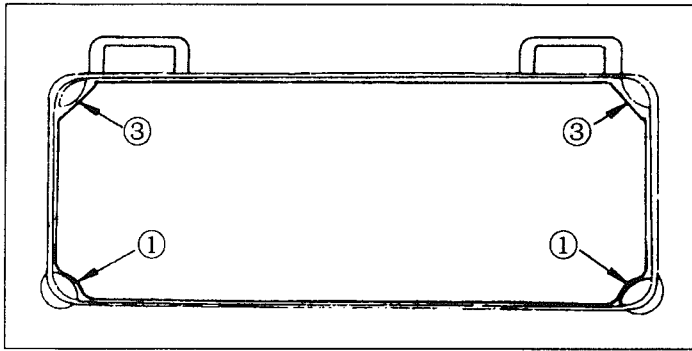
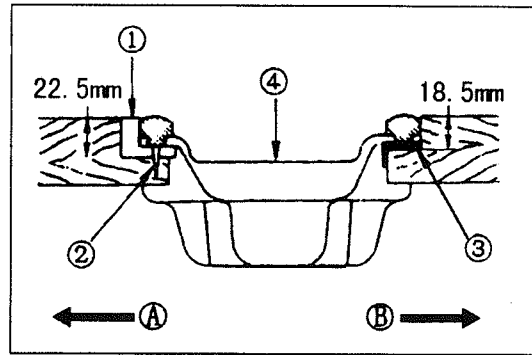
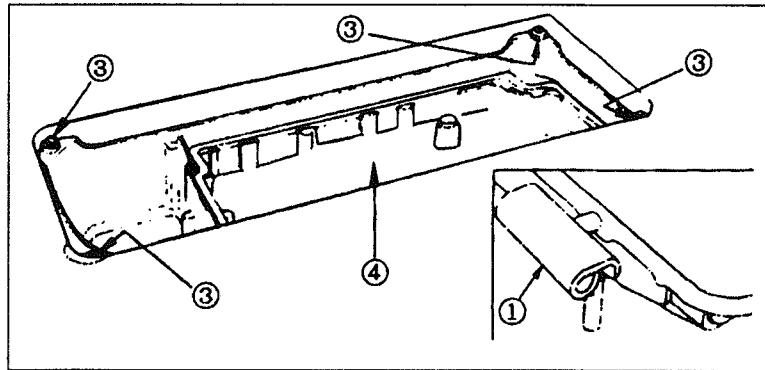
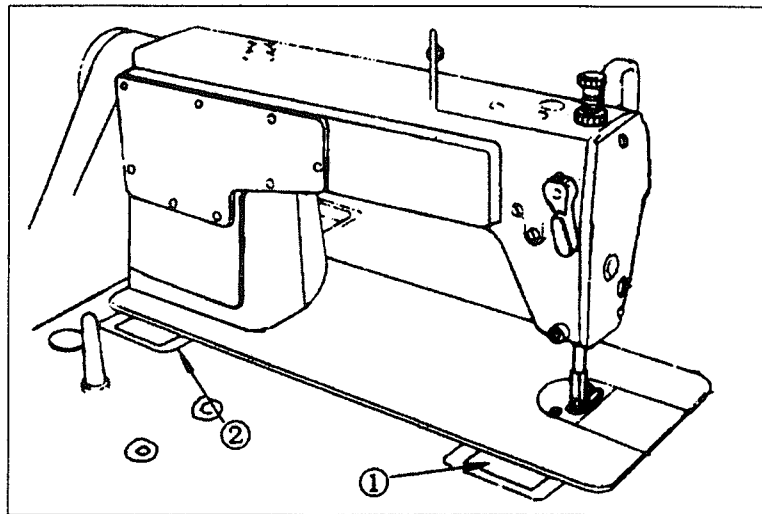

Fig 1
Fig 2
Fig.3
Fig.4
## 1.INSTALLATION (Fig.1, Fig.2, Fig.3, Fig.4)
- 2) Fix two rubber seats ① on side A (operator's side) using nails ② as illustrated above. Fix two cushion seats ③ on side B(hinged side)using nails ②. Then place oil pan ④ on the fixed seats. (Fig.1, Fig.2)
- 3) Fix hinge ① into the opening in the machine bed, and fit the machine head to table rubber hinge ② before placing the machine head on cushions ③ on the four corners.(Fig.3, Fig4)